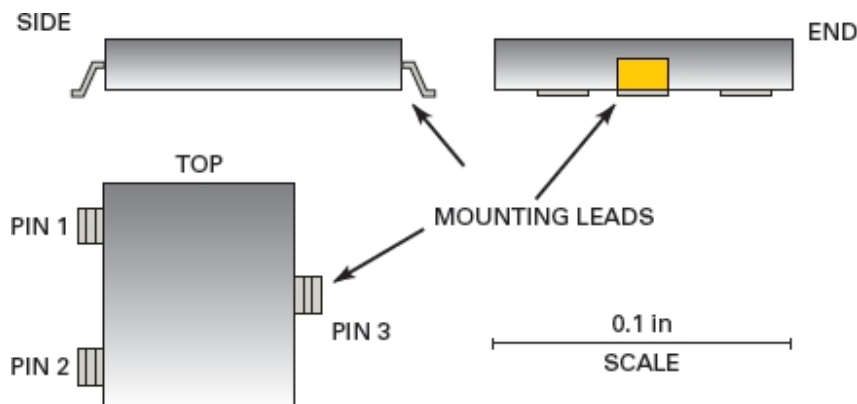

Figure-31 The SOT-23 is a three-terminal transistor package commonly used for SM diodes
- **SOT-23** packages have three gull-wing terminals (see Figure-31).